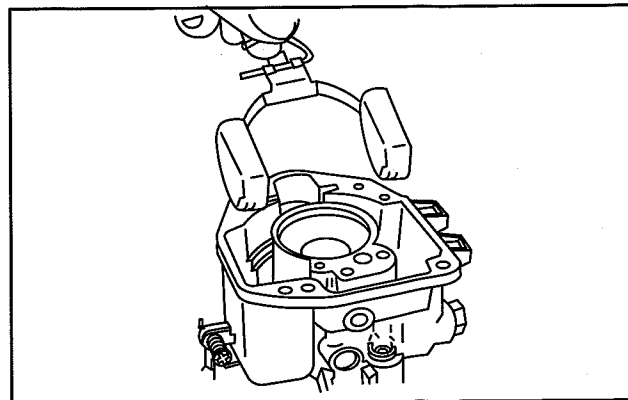

Fig. 80 – Remove Float
3. Remove float and inlet needle, Fig. 80.